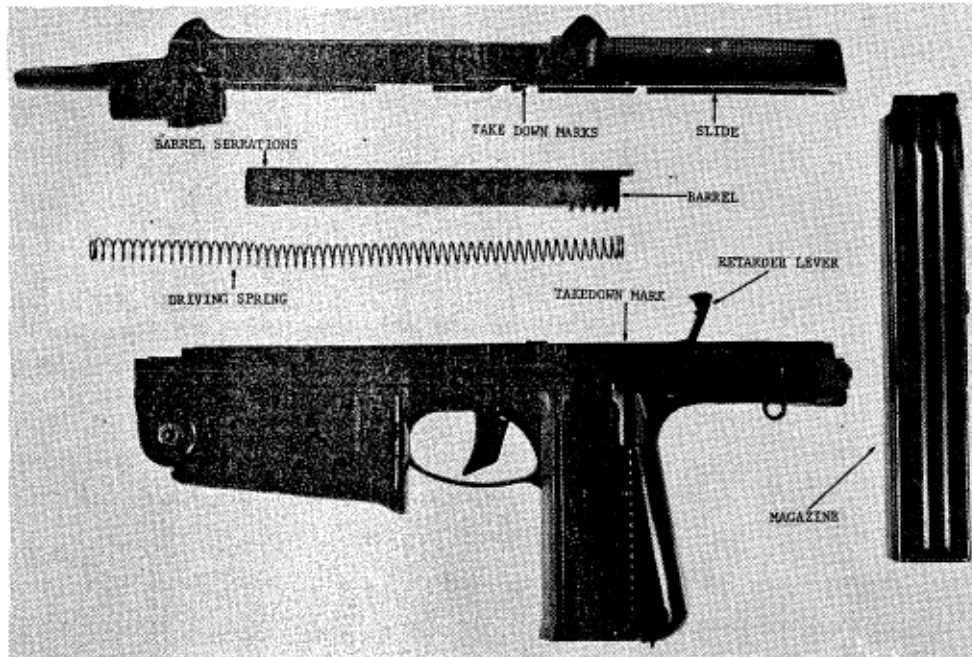

Figure 28.2. Wz63 disassembled.
(1) Clear the machine pistol (para 45c), but do not insert the magazine or press the trigger. Pull the slide rearward to the cocked position.
(2) Hold the slide, press the trigger, and ease the slide forward until the single disassembly line on the receiver is positioned between the double lines on the slide (fig 28.2). Hold the slide in this position and rotate the safety to the safe position. Grasp the barrel at the serration on its muzzle end and rotate it out of engagement with the receiver. Hold the slide, rotate the safety back to its fire position, press the trigger, and ease the slide forward off the receiver. Twist the barrel to disengage it from the slide, and draw it rearward and out through the bottom of the slide. Remove the driving spring and guide from the receiver. No further disassembly is necessary or desirable.